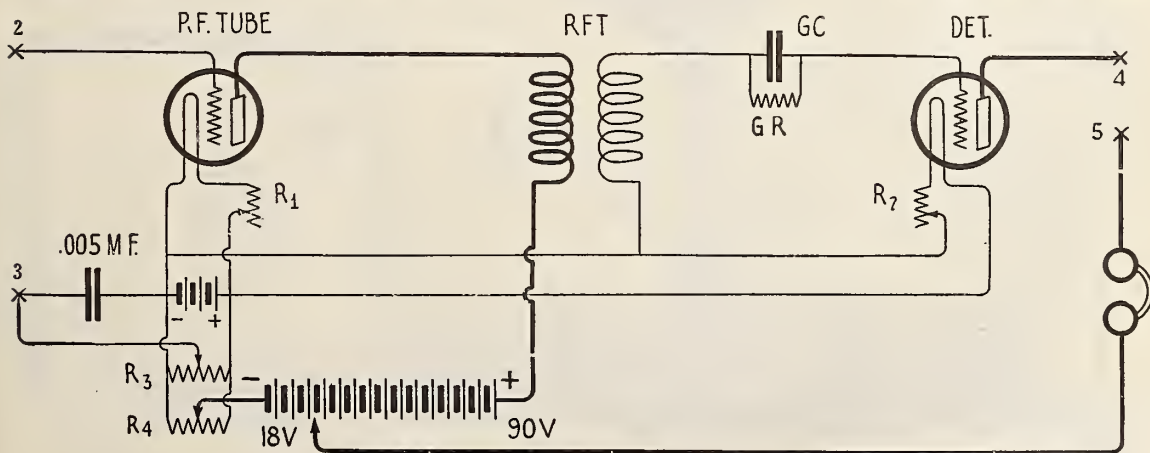

FIG. 1
PROVIDED with a circuit of the type shown in Fig. 1, it is possible for us to obtain many interesting and satisfactory results from almost any of the more common forms of receivers. Last month the application of a circuit of this variety to three-circuit tuners and loop antennas was explained, and now some comment upon applying radio-frequency to a single-circuit receiver may be of interest.
To begin with, the single-circuit receiver used in conjunction with Fig. 1, may be regenerative or non-regenerative, depending upon what is used to connect X^4 and X^5 . For simplicity of operation, the non-regenerative method may be used, but where long distance and greater selectivity are sought, regeneration is helpful. If a short piece of wire connects X^4 and X^5 , the regenerative action of the detector tube is not brought into play, but a variometer or the tickler coil of the common single-circuit regenerator inserted between these two points will, on the other hand, take advantage of re-
1. The great distance that is possible with a single tube. *A score of contestants have heard stations more than 1,500 miles away*, while 1,000-mile reception is common. A dozen or so report an aggregate mileage of more than 50,000 (the record is 111,240 miles, made by Russell Sheehy. His circuit is given in Fig. 1), and many have identified more than sixty different broadcasting stations!